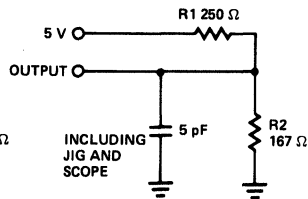

Figure 1b
6. t_{HZCS} is tested with load shown in Figure 1b. Transition is measured at steady state High level + 500 mV or steady state Low level + 500 mV on the output from the 1.5V level on the input.